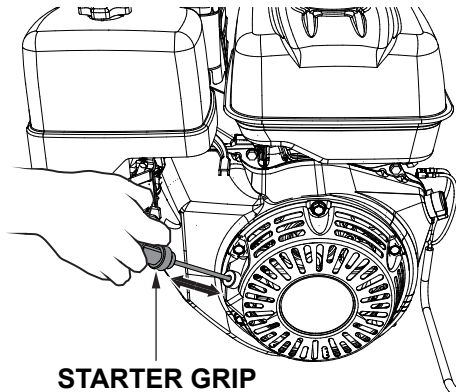

Figure 13. Starter Grip
6. Pull the **starter grip** (Figure 13) lightly until you feel resistance, then pull briskly. Return the starter grip gently.